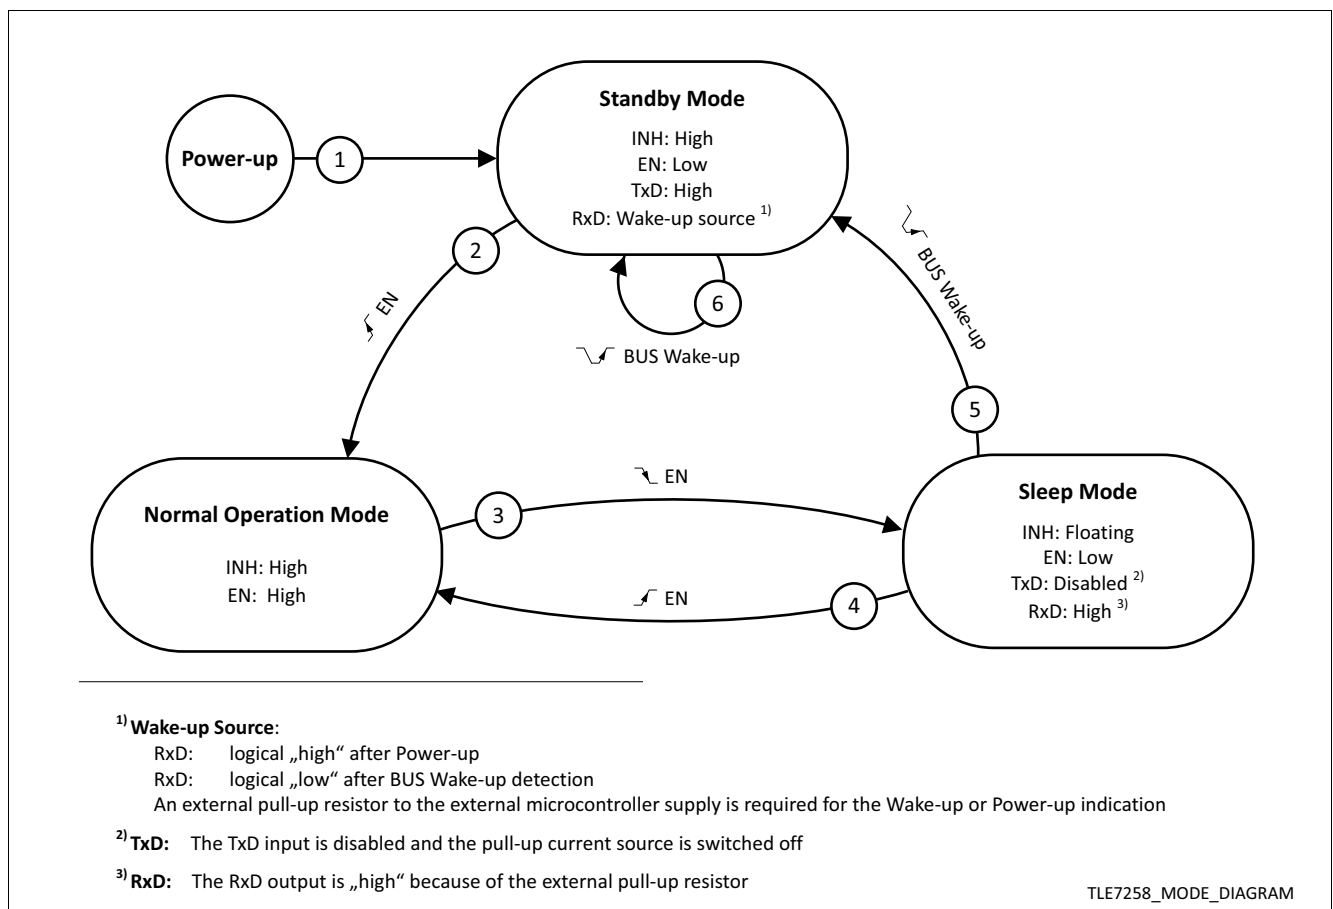
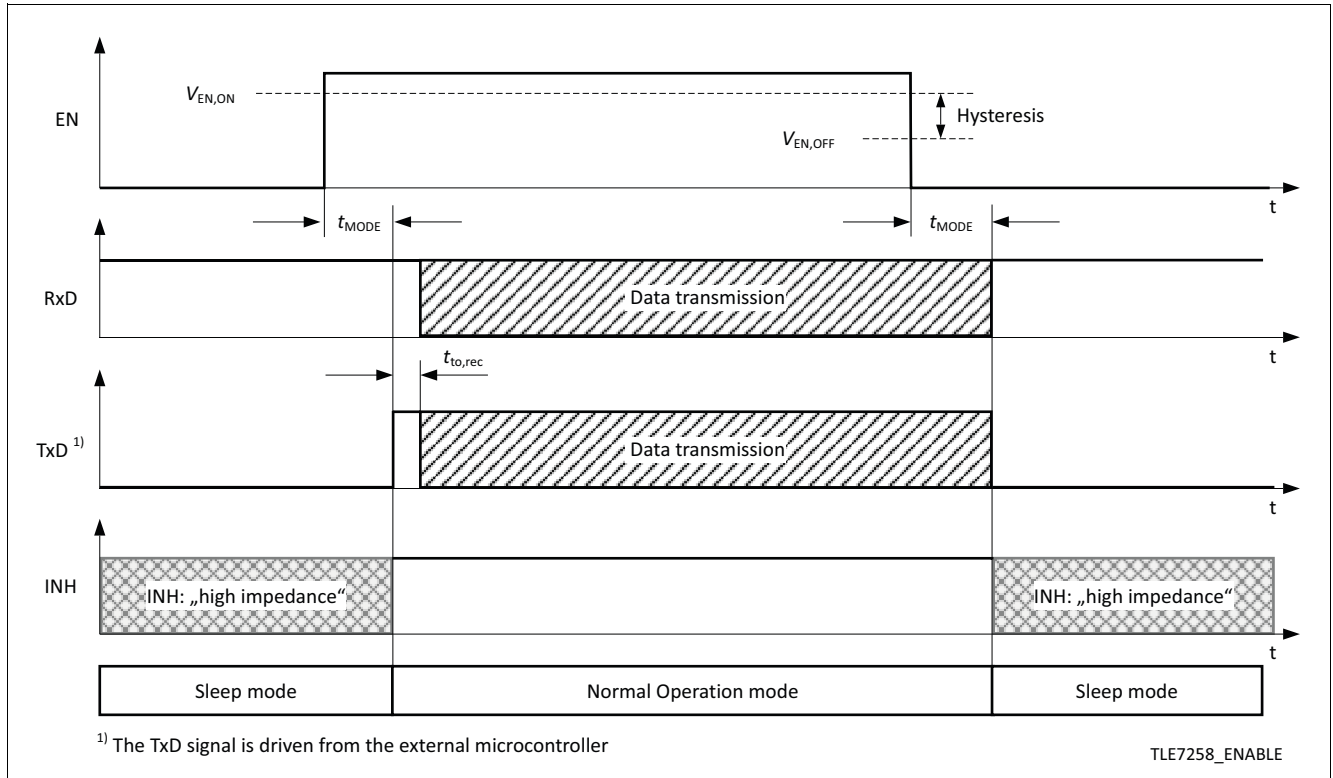

Figure 4 Operation mode state diagram
Figure 9 Entering Normal Operation mode from Sleep mode
The TLE7258 has 3 major operation modes (see Figure 4):
Normal Operation mode can be entered from either Sleep mode (see Figure 9) or from Standby mode (see Figure 5), by setting the EN input to logical "high". From Normal Operation mode the TLE7258 can only enter Sleep mode, it is not possible to enter Standby mode directly (see Figure 4).
- The RxD output indicates either a wake-up event or a power-up event (see Figure 4 and Table 1).
To switch the TLE7258 from Normal Operation mode to Sleep mode, the EN input has to be set to "low". Conversely a logical "high" signal on the EN input sets the device directly back to Normal Operation mode (see Figure 4). The TLE7258 can only enter Sleep mode from Normal Operation mode.
The EN input is used for operation mode control of the TLE7258. By setting the EN input logical “high” for the time t_{MODE} while being Sleep or Standby mode, a transition to Normal Operation mode will be triggered (see Figure 9). The EN input has an integrated pull-down resistor to ensure the device remains in Sleep or Standby mode even if the EN pin is left open. The EN input has an integrated hysteresis.